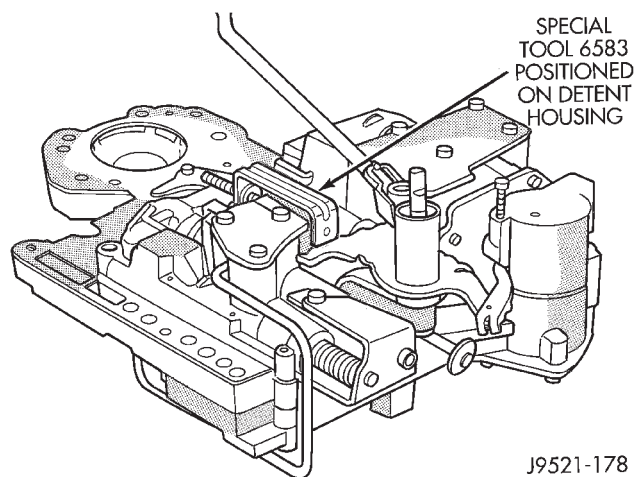

Fig. 83 Detent Ball Spring
(1) Install boost valve, valve spring, retainer and cover plate. Tighten cover plate screws to 4 N·m (35 in. lbs.) torque.
(2) Insert manual lever detent spring in upper housing.
(3) Position detent ball on end of spring. Then hold detent ball and spring in detent housing with Retainer Tool 6583 (Fig. 83).
(4) Install throttle lever in upper housing. Then install manual lever over throttle lever and start manual lever into housing.